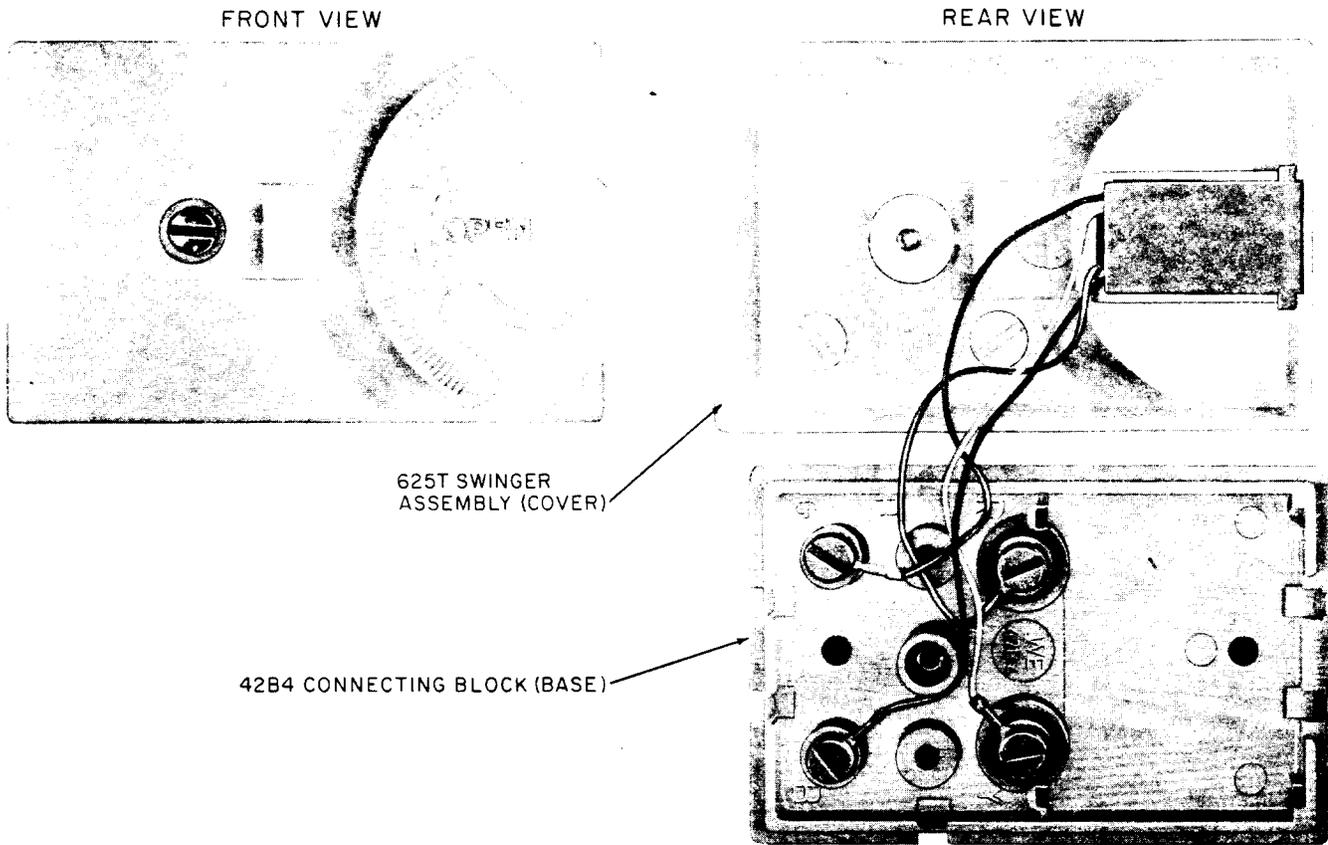

Fig. 11—625SA Connecting Block
I. 625SA Connecting Block (Fig. 11)
2.11 The 625SA connecting block (Fig. 11) consists of a 42B4 connecting block (base), 625T swinger assembly (cover), and jack. It is intended for surface mounting in high humidity and infested areas. The spade-tipped jack leads provide the termination to the connecting block screw terminals. It is available in ivory (-50) and brown (-54).
(c) **Spring Cover-Type:** Install the flush-mounted swingers with the point of the spring-loaded cover up (Fig. 10). Install the surface-mounted swingers in the horizontal position so the OPEN label is situated for correct reading (Fig. 11). Locate connecting block where convenient for each of connecting and disconnecting the miniplug.
3.10 625SA Connecting Block: Mount the 42B4 connecting block (base) on the wall (preferred) or baseboard. Terminate station wire and dress the 625T swinger assembly (cover) jack leads as shown in Fig. 11.